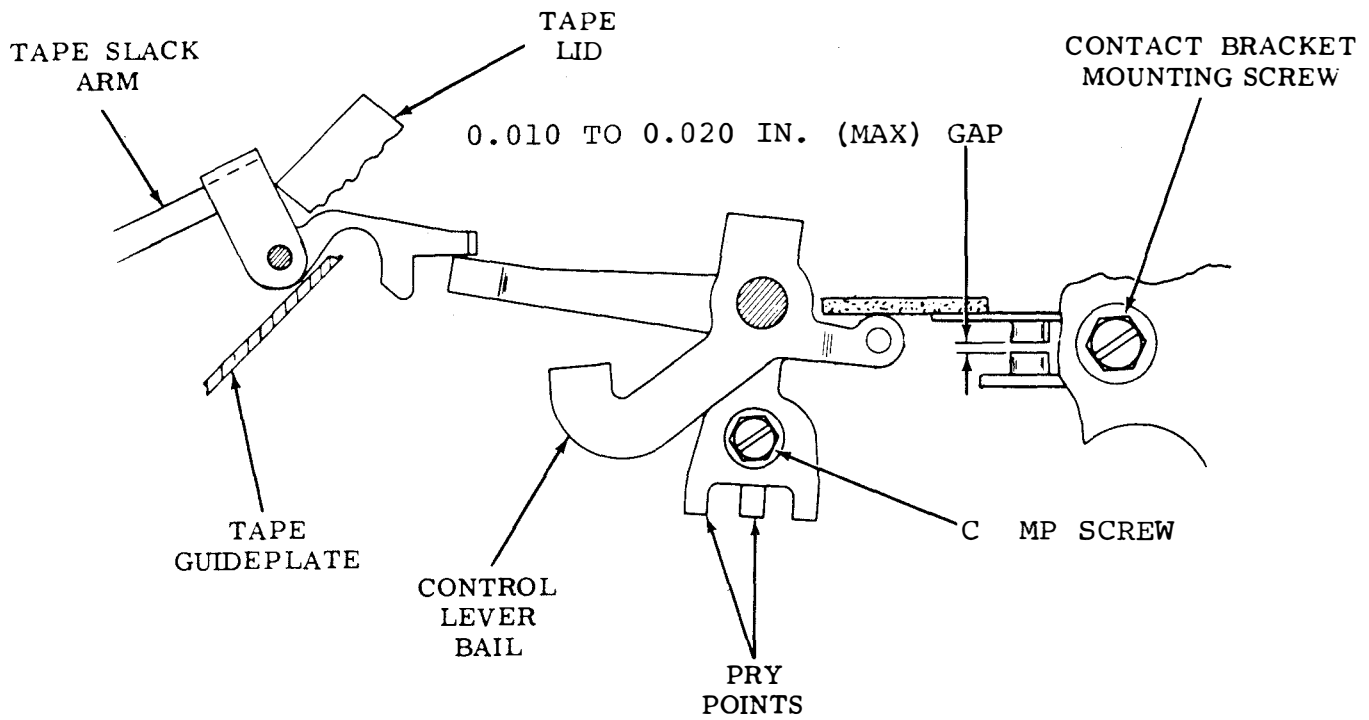

Figure 6-527. Tape Slack Arm Adjustment and Contact Gap, Rear View
(1) Refer to Figure 6-527.
(2) Close tape lid and place control lever in RUN position.
(3) Raise tape slack arm to its maximum height.
(4) Gap between tape slack contacts should measure 0.010 to 0.020 inch maximum.
(5) If gap exceeds specified limits, loosen clamp screw and position pry points to obtain specified contact gap. Tighten clamp screws.